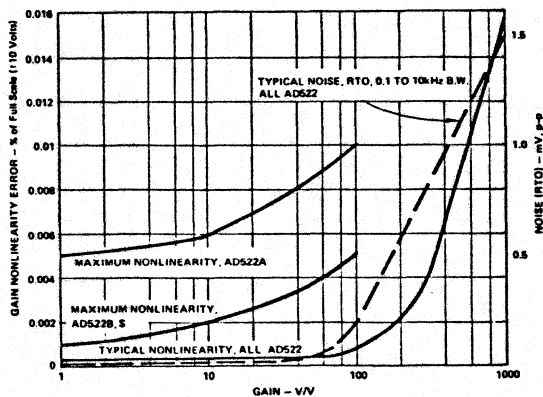

Figure 4. Gain Nonlinearity and Noise (RTO) vs. Gain
Nonlinearity, max (see Fig. 4)
Voltage Noise, RTI (see Fig. 4)
**Gain Nonlinearity and Noise:** Gain nonlinearity increases with gain as the device loop-gain decreases. Figure 4 is a plot of typical nonlinearity vs. gain. The shape of the curve can be safely used to predict worst-case nonlinearity at gains below 100. Noise vs. gain is shown on the same graph.